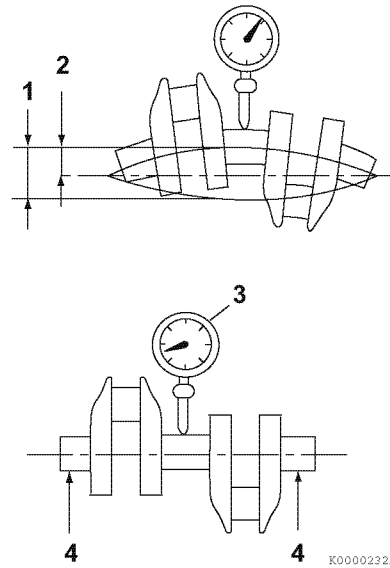

Figure 6-74
1. Place the crankshaft end journals (**Figure 6-74, (4)**) on V-blocks.
2. Place a dial indicator (**Figure 6-74, (3)**) on a center main bearing surface.